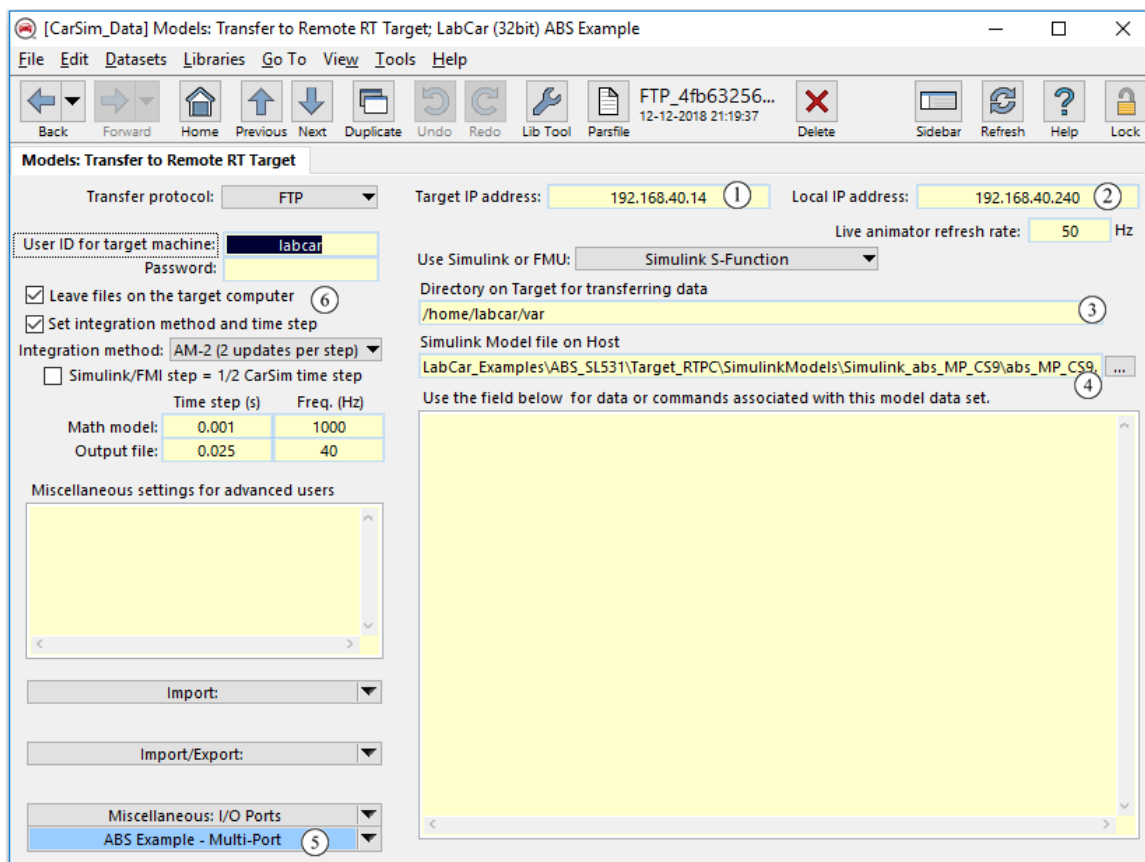

Figure 42. Specification of COSYM project and Simulink model.
4. Click the blue button for the new link to go to the newly created dataset (Figure 42).